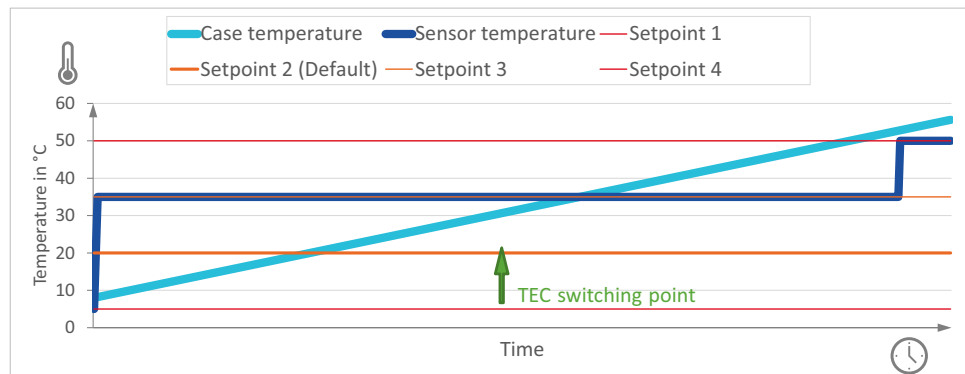

Figure 90: Schematic figure of TEC heating and cooling
During operation, as long as the TEC does not actively cool the sensor, the sensor temperature usually is higher than the case temperature. So, even if the sensor temperature is below the current temperature setpoint, the TEC might still be required to cool the sensor. The green arrow in Figure 90 shows this situation. Note for better understanding the case temperature profile is shown in a simplified way that covers the whole temperature range.
- Set to *Auto*, the TEC is able to switch to a higher setpoint, if it exists, as shown in Figure 90.